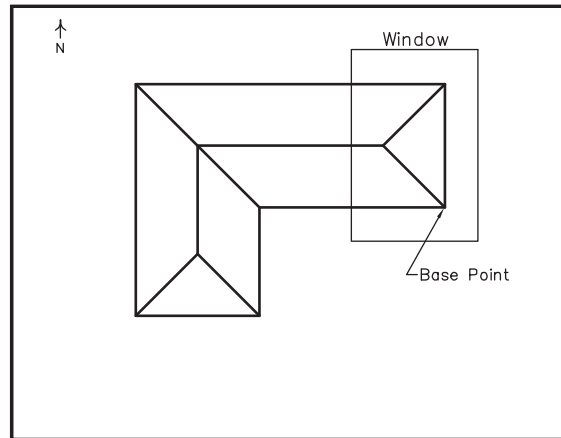

Fig. 18-2
8. Select the east end of the house, as shown in Fig. 18-2, and press **ENTER**. Use the crossing object selection procedure.
In reply to **Select objects**, pick a point to the right of the house and move the cursor to the left to create a green crossing window (Fig. 18-2).
9. Pick the lower right corner of the house for the base point, as shown in Fig. 18-2.